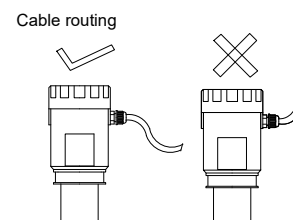

Fig 12
- After wiring, ensure cable is routed downward before cable gland to prevent seepage of water in the enclosure. (fig 12)